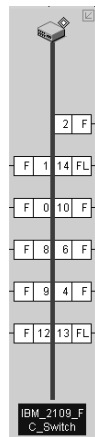

Figure 111. Port assignments
- Expand multi-port devices to show the port assignments. Right-click the device and select **Ports** from the pop-up menu to view the ports. See Figure 111.